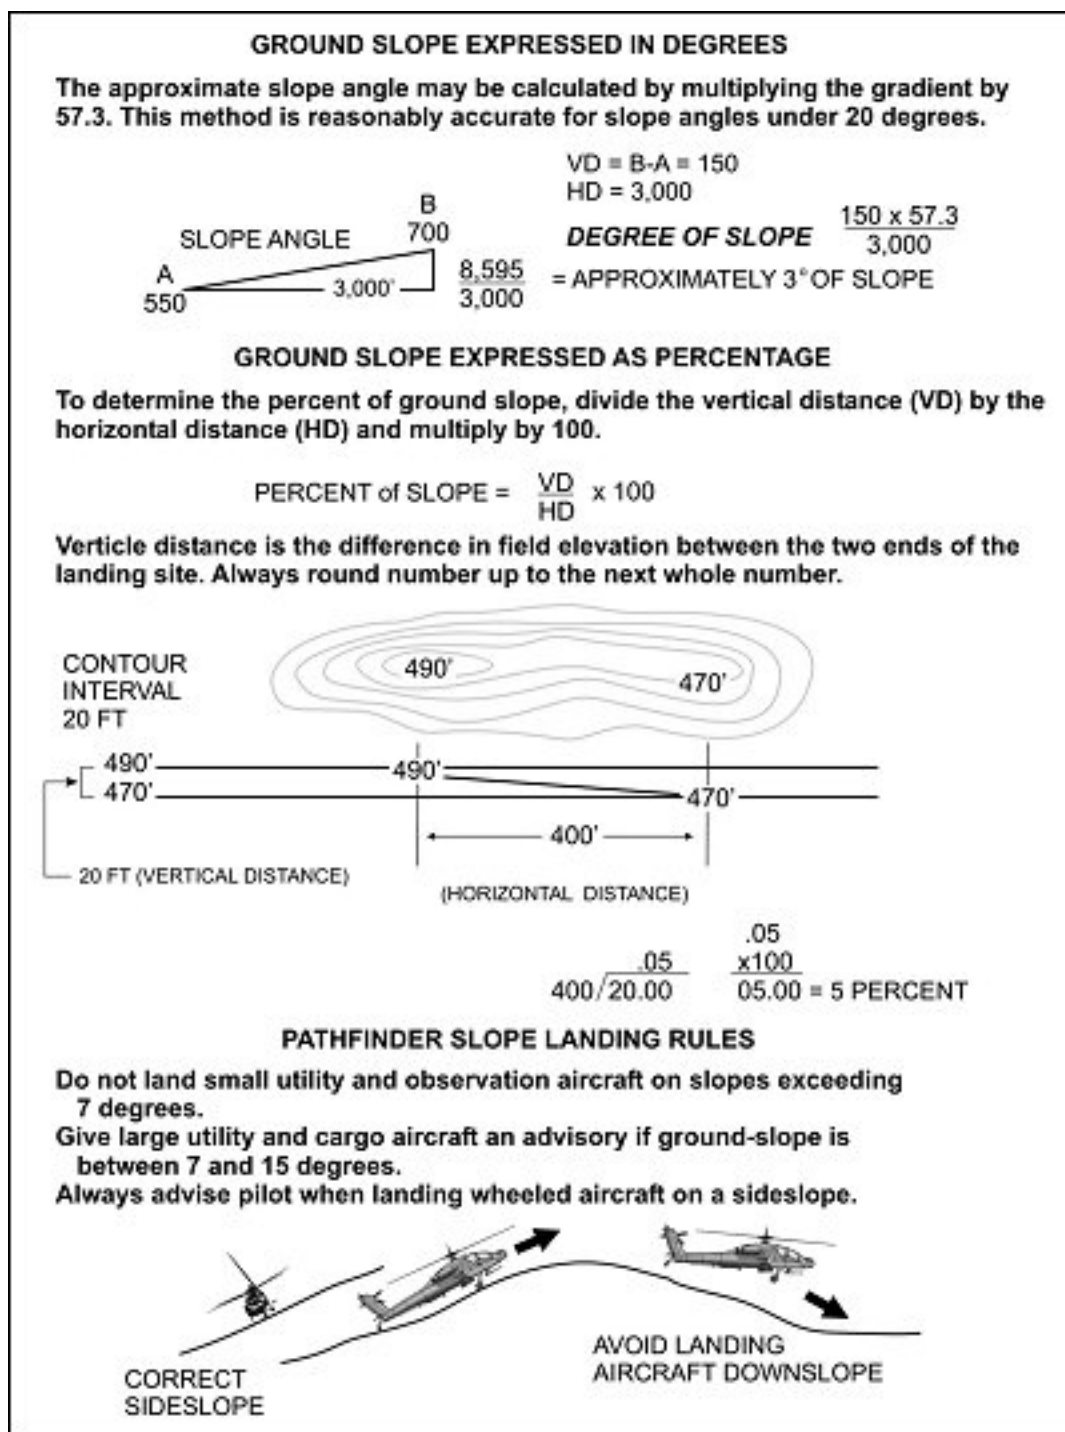

Figure 4-2. Determining ground slope.
d. **Ground Slope.** Pathfinders choose landing sites with relatively level ground. For the helicopter to land safely, the slope should not exceed 7 degrees (Figure 4-2). Whenever possible, pilots